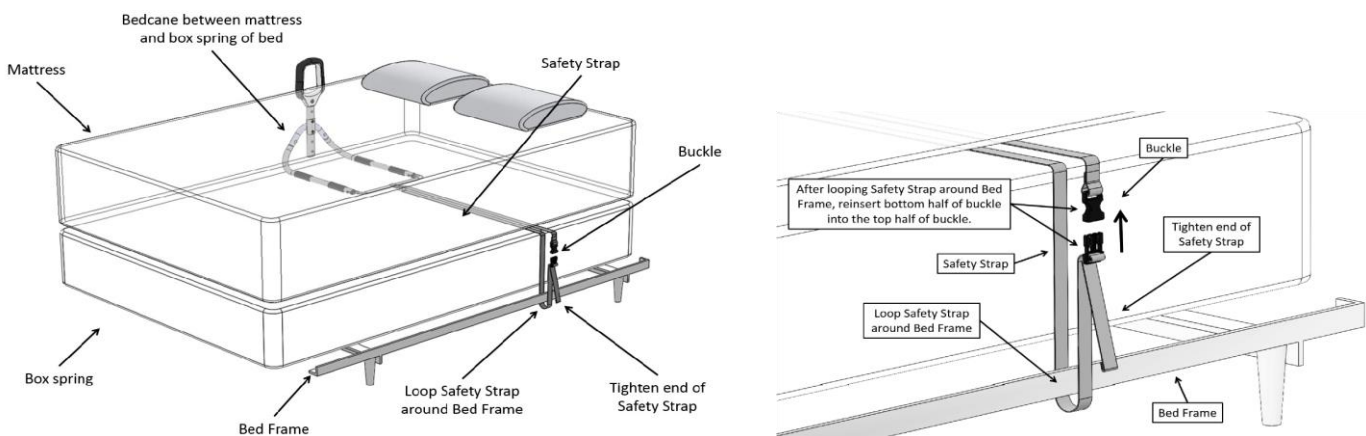

FIGURE 5
5. **Entrapment Warning:** Secure the SAFETY STRAP to the bed frame, as shown in Figure 5. Unbuckle strap and loop strap around bed frame and re-buckle. Tighten strap to secure Handle Assembly against the side of the mattress as shown in Figure 5. Product can be installed on either side of the bed; however the SAFETY STRAP must be placed between the mattress and box spring and secured to the opposite side of the bed frame.
Do NOT install product without securing the SAFETY STRAP to the bed frame as shown in Figure 5. If you have any questions, call Stander at (800) 506-9901 or (435) 755-0453.